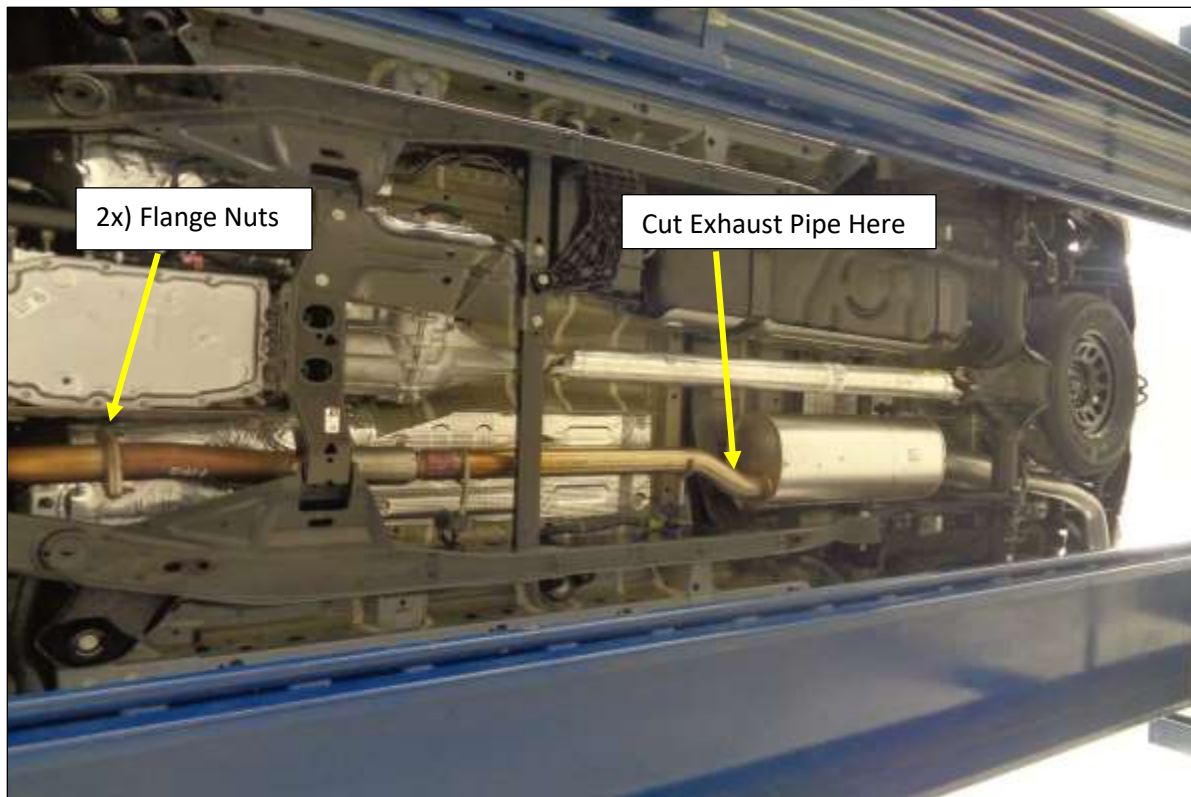

Figure 1
2. Remove the (x2) 15mm nuts at the two-bolt flange connection. **Fig. 1**
3. Cut the exhaust pipe just before the muffler with a reciprocating saw. **Fig. 1**